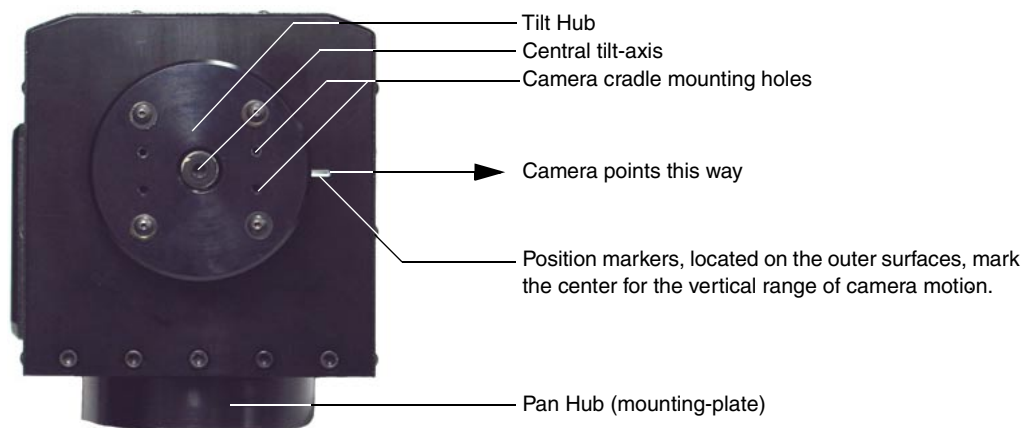

FIG. 3 Center position for the camera cradle attachment (side view)
2. Locate the external white position markers located on the pan and tilt axis. The position markers must align with the pan and tilt axis in order to be considered in the home position. FIG. 3 shows the camera cradle attachment in the center position.